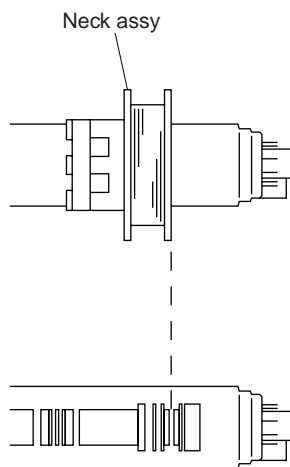

Fig. 1-3
7. Fix the neck assembly in the position as shown in Fig. 1-3.